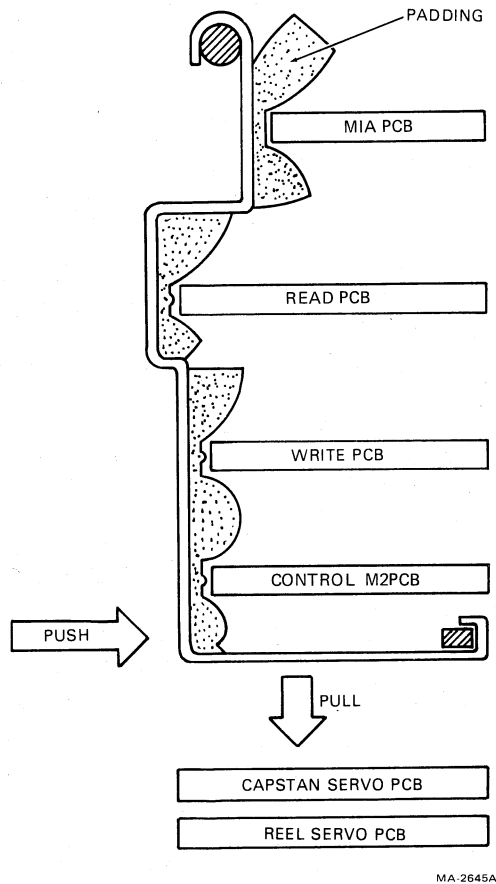

Figure 3-5 PCB Shipping Bracket (Side View)
12. Remove the PCB shipping bracket by pushing in on the lower front and pulling down from underneath (Figure 3-5).